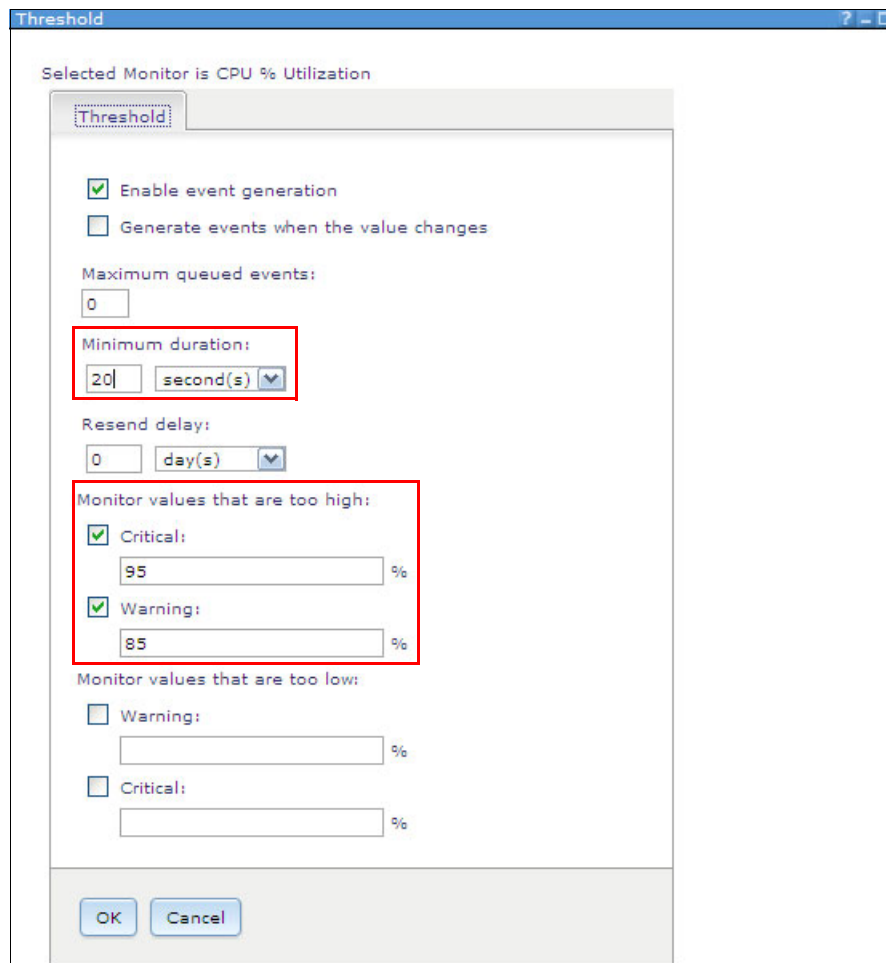

Figure 7-45 Threshold window
- When you activate a threshold on a numeric monitor, you get the window shown in Figure 7-45. Activating a threshold includes setting a number of options. Choose whether to generate an event when the threshold is exceeded and determine the amount of time that the threshold waits before it resends the information. Define Critical and Warning threshold values. When the monitored resource exceeds the specified value for any threshold limit, the monitor displays the appropriate icon for a warning or critical notification.
Configure the threshold to trigger an event in the case of high CPU Utilization on the selected Windows system. Select **Critical** and **Warning** under the “Monitor values that are too high” section and configure the values as shown in Figure 7-45. Set the Minimum duration to **20 seconds**. This setting ensures triggering an event if the CPU Utilization value exceeds the threshold for over 20 seconds. Click **OK**.